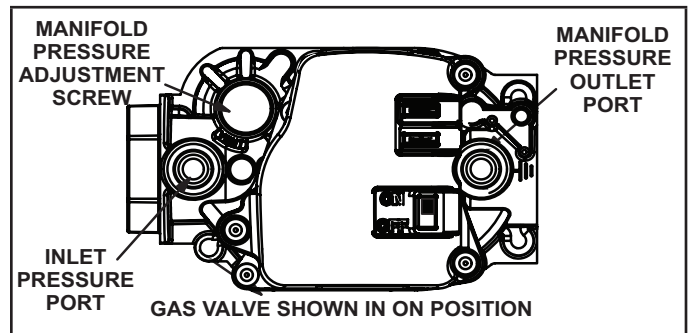

FIGURE 51
- 6 - Move gas valve switch to **OFF**. See FIGURE 51.
- 8 - Move gas valve switch to ON. See FIGURE 51.
When testing supply gas pressure, use the 1/8" N.P.T. plugged tap or pressure post located on the gas valve to facilitate test gauge connection. See FIGURE 51. Check gas line pressure with unit firing at maximum rate. Low pressure may result in erratic operation or underfire. High pressure can result in permanent damage to gas valve or overfire.